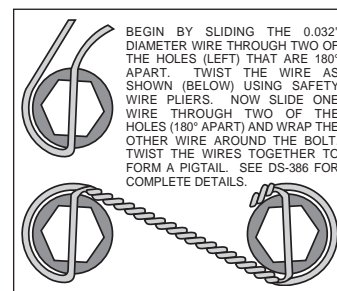

Figure 2. Safety Wire Diagram
- Safety wire bolts using standard 0.032 inch diameter stainless steel safety wire as shown in Figure 2. Please refer to Wilwood's data sheet DS-386 (available at [www.wilwood.com/Pdf/DataSheets/ds386.pdf](http://www.wilwood.com/Pdf/DataSheets/ds386.pdf)) for complete safety wire installation instructions.